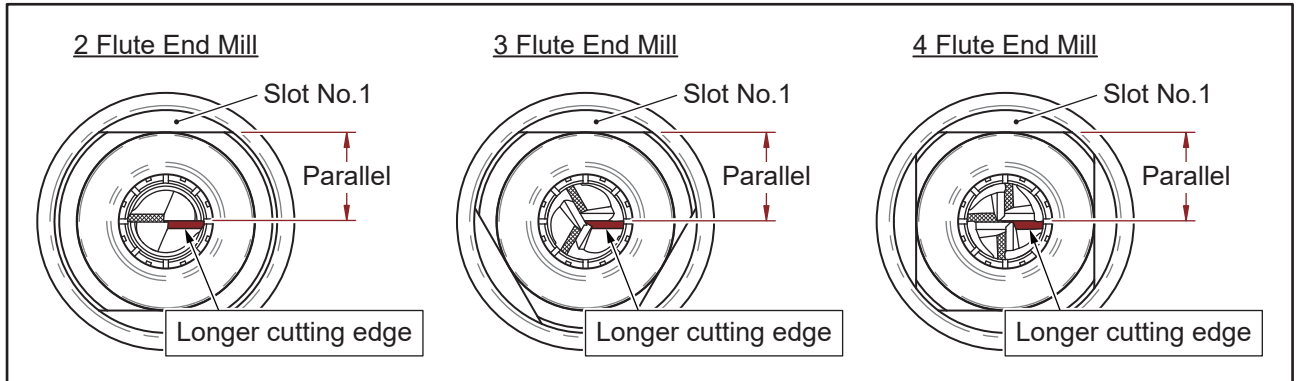

Fig. 7-3
4. Turn the longer cutting edge of end mill to be parallel to the Slot No.1 of the clamping nut. (Fig. 7-3)
3. Gently turn the chuck set counterclockwise and take it out, make sure the end mill's longer cutting edge is parallel to the Slot No.1 of clamping nut (See Fig. 7-3).